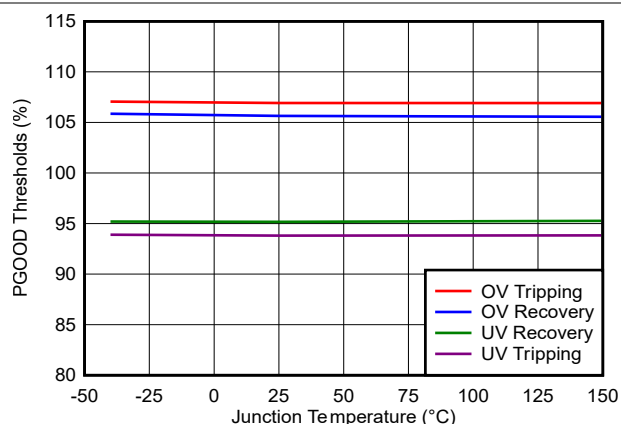
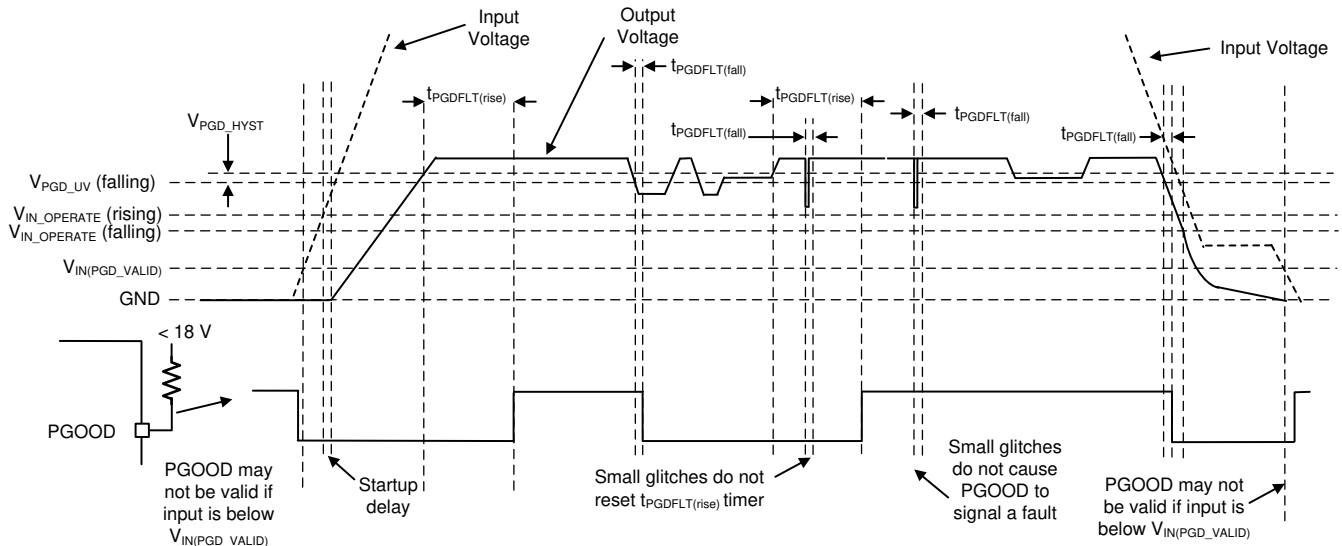

Figure 6-8. PGOOD Thresholds
Figure 7-5. PGOOD Timing Diagram (Excludes OV Events)
The PGOOD function is implemented to replace a discrete reset device, reducing BOM count and cost. The PGOOD voltage goes low when the feedback (FB) voltage is outside of the specified PGOOD thresholds (see Figure 6-8). This can occur during current limit and thermal shutdown, as well as when disabled and during normal start-up. A glitch filter prevents false flag operation for short excursions of the output voltage, such as during line and load transients. Output voltage excursions that are shorter than $t_{PGDFLT(fall)}$ do not trip the PGOOD flag. Refer to Figure 7-5 to best understand PGOOD operation.
$V_{OUT} < V_{OUT-target} \times PGDI_{UV}$ AND $t > t_{PGDIFLT(fall)}$	Output voltage in regulation: $V_{OUT-target} \times (PGDI_{UV} + PGDI_{HYST}) < V_{OUT} < V_{OUT-target} \times (PGDI_{OV} - PGDI_{HYST})$ (see Figure 6-8)